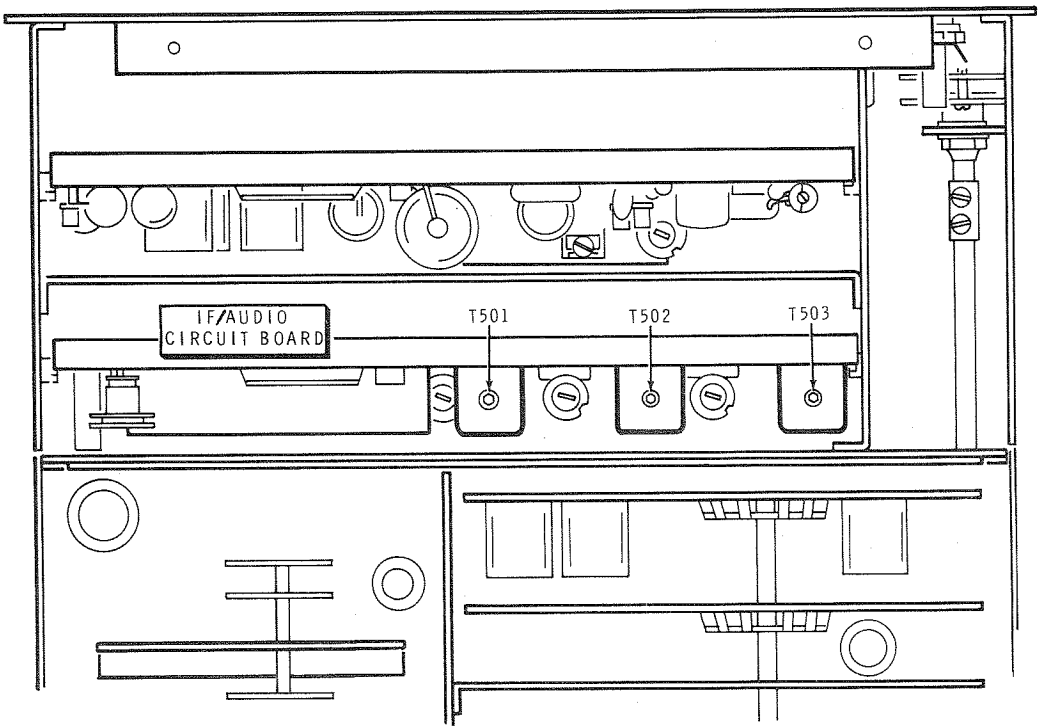

Figure 20
- () Refer to Figure 20 and adjust IF transformers T501, T502, and T503 for a maximum meter reading.